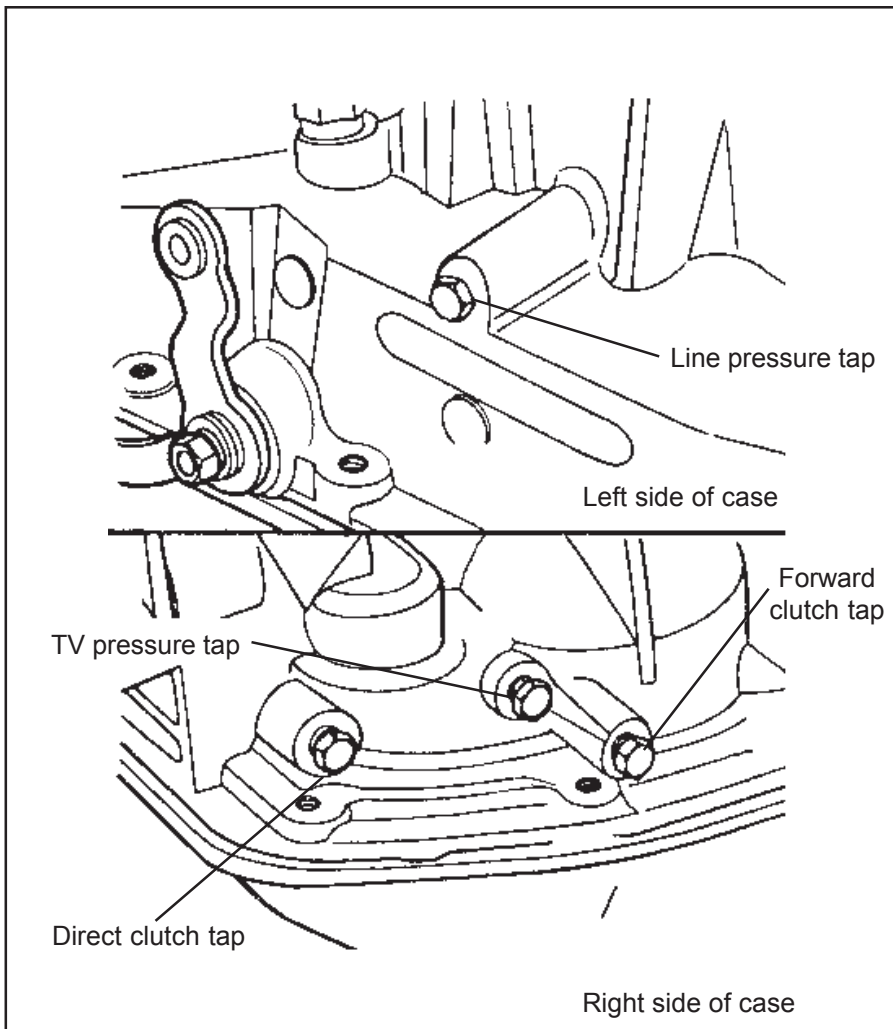

Figure 8
*Connect a 0-300 PSI (0-2000 kPa) pressure gage to the line pressure port located just above the control levers on the right side of the transmission (**See Fig. 8**). The gage hose must be long enough to read gage while operating engine.
*Connect a 0-100 PSI (0-690 kPa) gage (300 PSI gage will work if it's all you have) to the TV Pressure tap on the right hand side of the transmission (**See Fig. 8**). The gage hose must be long enough to read gage while operating engine.